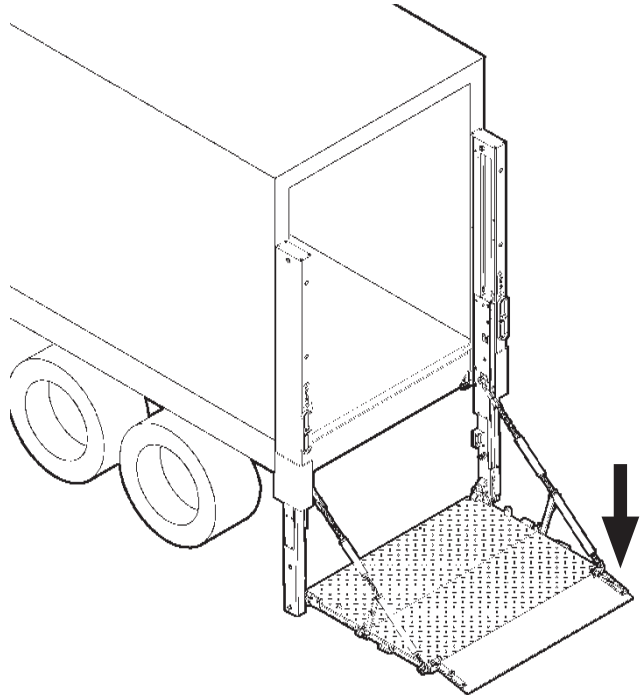

FIG. 4-1
1. **UNFOLD** and **LOWER** platform to the ground (**FIG. 4-1**).